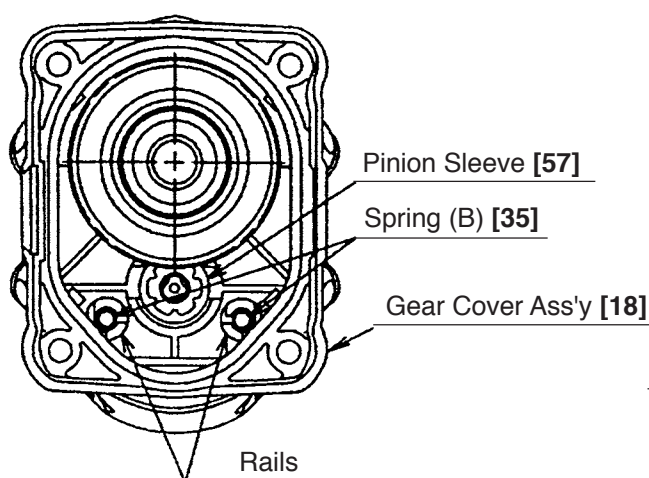

Fig. 14
(1) Disassembly of the striking mechanism section
- Push the Second Hammer **[43]** in the main body with a drill bit or screwdriver to release the Striker **[51]** from O-ring (C) **[48]**.
- Remove Spring (B) **[35]** from the rails in the Gear Cover Ass'y **[18]** as shown in Fig. 14.